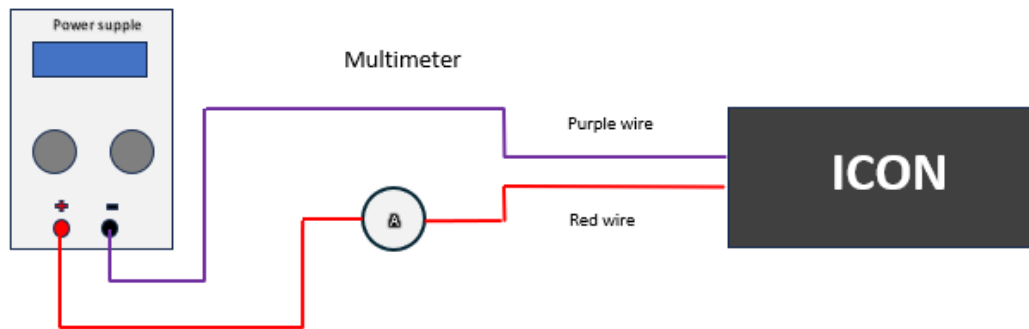

Fig. 2 Connection Diagram
3. Assemble the connection circuit according to "Fig.2 Connection Diagram".